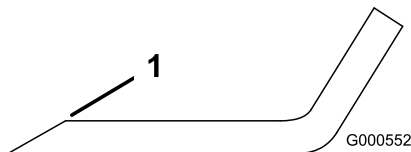

Figure 92
1. Use a file to sharpen the cutting edge at both ends of the blade (Figure 92).
Note: If the blade is not balanced, file some metal off the end of the sail area only (Figure 92).